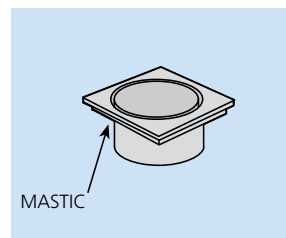

Fig. 74
- Check overall height of unit with inlet in position, and adjust to suit installation location. (Do NOT solvent weld inlet at this stage) (Fig. 74/75).